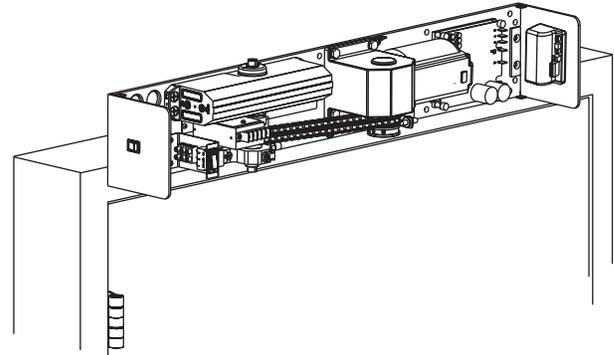

Figure 5
**B. Mount unit to frame. (Figure 5)**